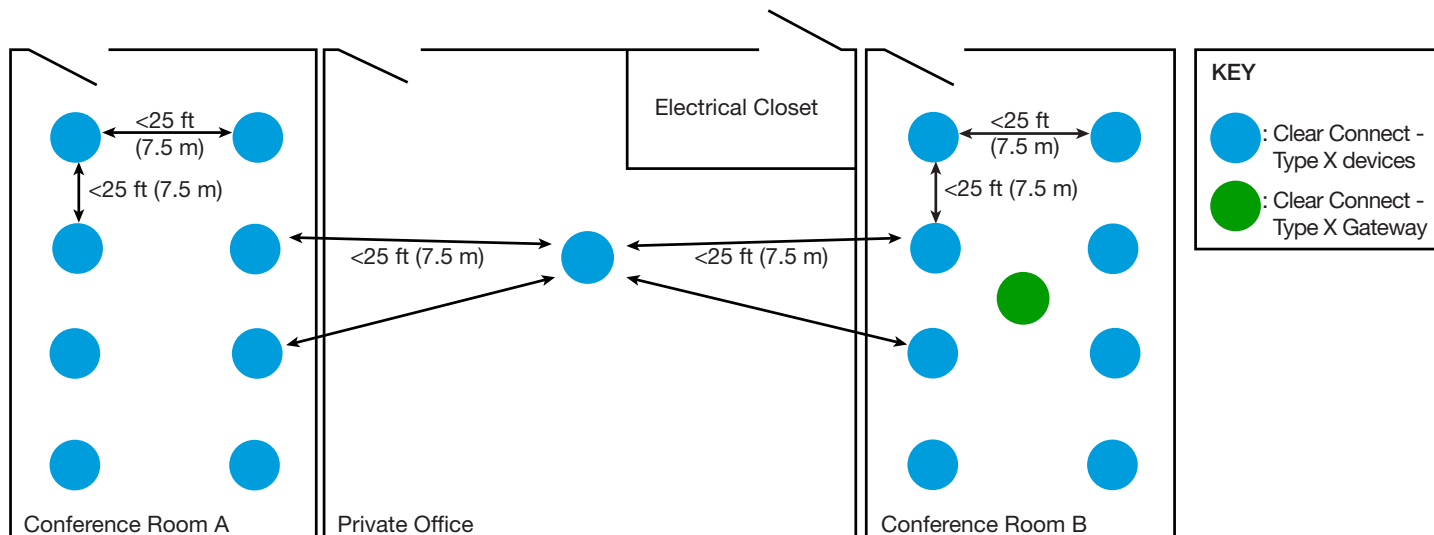

Figure 7 - Solution 3 Where additional devices are placed between the two groups of devices.
3. **Solution 3 (refer to Figure 7):** Place the Gateway in one of the two conference rooms and place one or more additional Type X devices between the two conference rooms such that the additional device(s) is within 25 ft (7.5 m) of at least two other devices in each conference room.